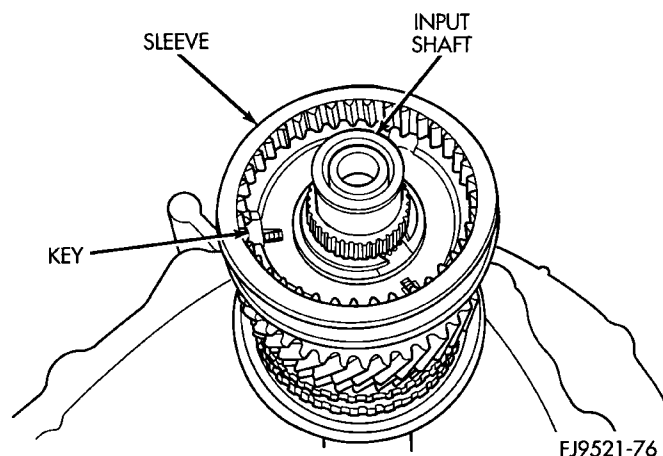

Fig. 119 Synchronizer Sleeve
(5) Slide sleeve over the hub and depress balls as you carefully slip the sleeve into position (Fig. 119).